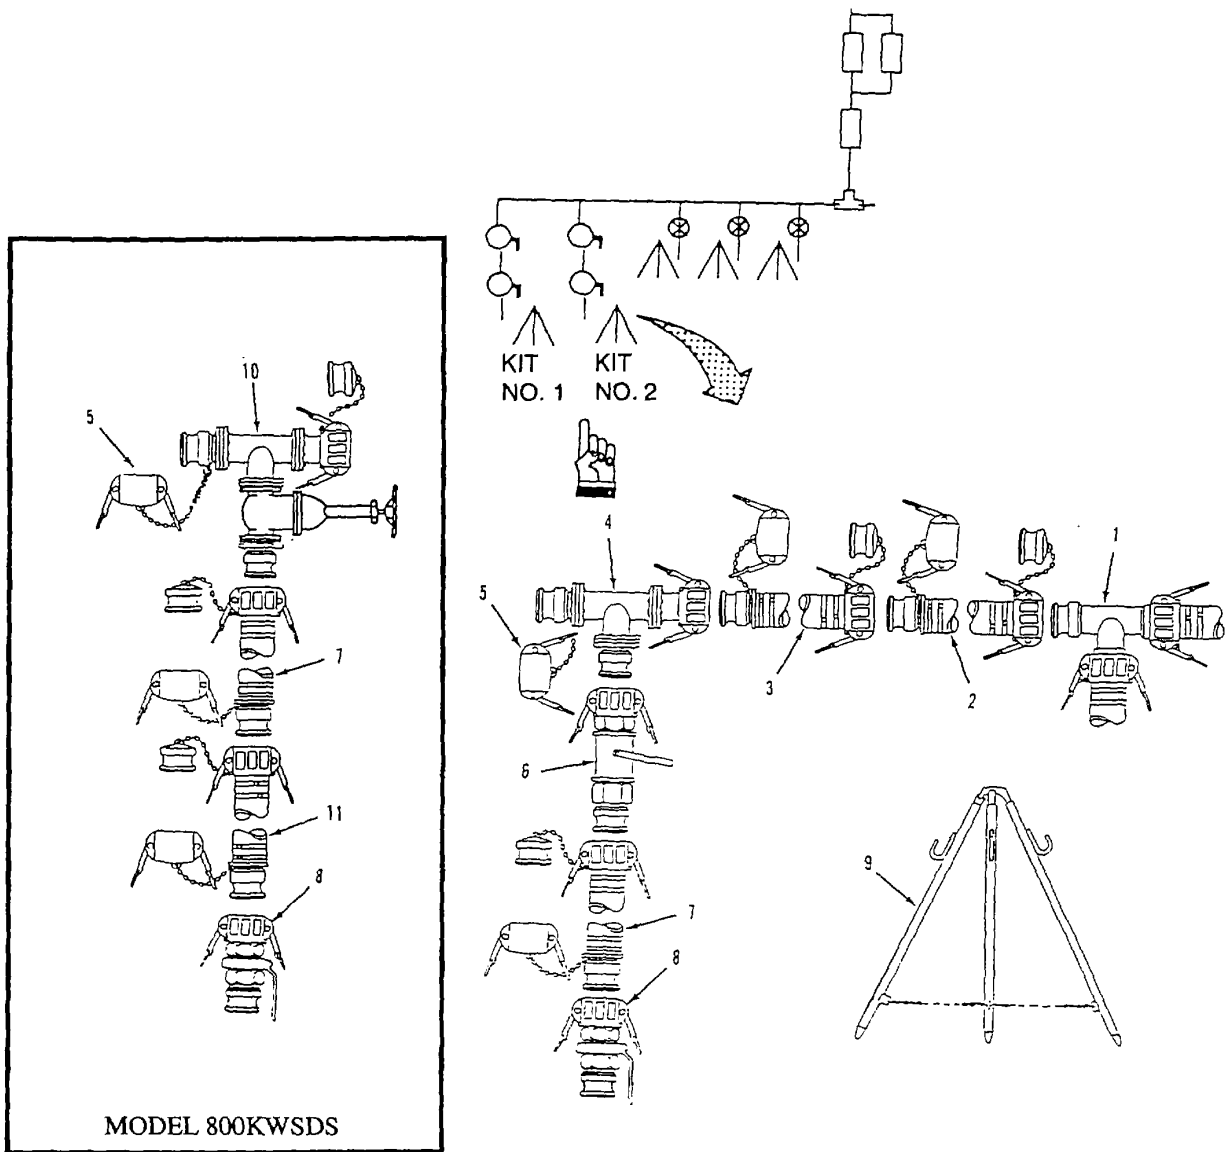

Figure 2-30. 4-Inch Hose Connection Kit Disassembly.
- (17) Disconnect 4 inch x 20 foot discharge hose (1) from tee (8).
- (18) Repeat steps 10 through 16 for hose connection kit no. 1.
- (19) Drain and allow components to dry.
- (20) Install caps and plugs on component couplings (para. 2-10c).
- (21) Roll all discharge hoses and secure with tape.
- f. Disassemble 4-Inch Hose Connection Kits. Refer to figure 2-30.
- Do steps (2) through (5) and (10) through (14) below to disassemble a 4-inch hose connection kit that uses a quick acting valve (figure 2-30, item 6).
- Do steps (6) through (14) below to disassemble a 4-inch hose connection kit that uses the tee and gate valve assembly (figure 2-30, item 10) and an additional hose (item 11).
- (2) Disconnect butterfly valve (8) from 20 foot discharge hose (7).
- (3) Disconnect 20 foot discharge hose (7) from quick acting valve (6).
- (4) Disconnect quick acting valve (6) from tee (4).
- (5) Disconnect tee (4) from 20 foot discharge hose (3).
- (6) Disconnect butterfly valve (8) from 20 foot suction hose (11).
- (7) Disconnect 20 foot suction hose (11) from discharge hose (7).
- (8) Disconnect 20 foot discharge hose (7) from tee and gate valve assembly (10).
- (9) Disconnect tee and gate valve assembly (10) from discharge hose (3).
- (10) Disconnect two 20 foot discharge hoses (2 and 3) from tee (1).
- (11) Repeat applicable steps above to disassemble kit no. 1.